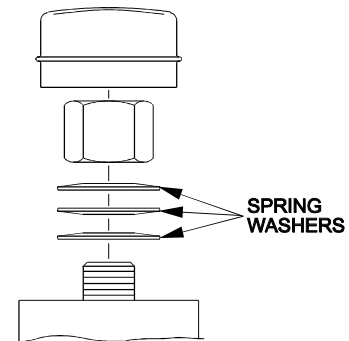

FIG. 18
- a) Remove dust cap from caster and tighten nyloc nut until washers are flat and back off 1/4 of a turn to properly set the pre-load on the bearings. If necessary make sure the spring washers are reinstalled as shown in Figure 18.